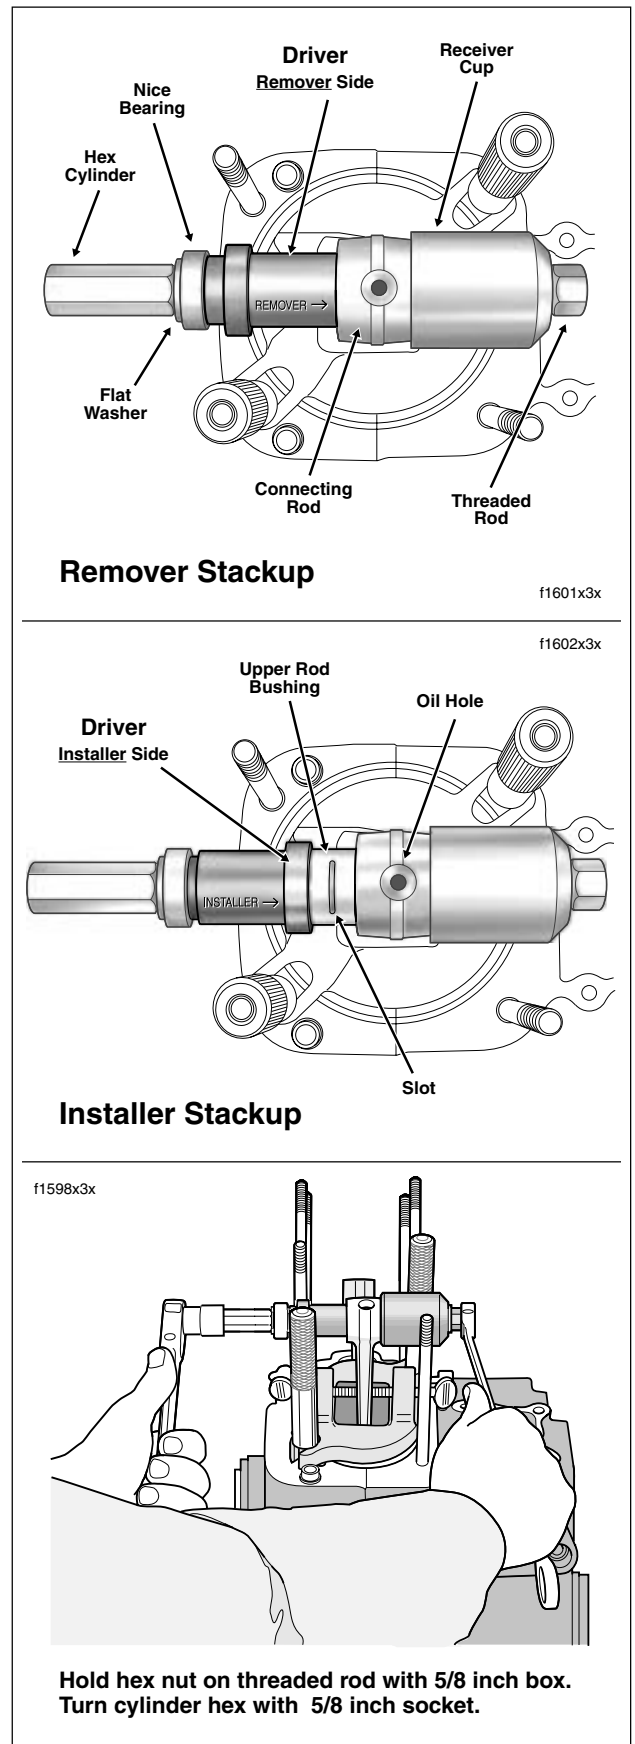

Figure 3-96. Remove/Install Connecting Rod Bushing
- Thread the hex cylinder onto rod until assembly is snug. See upper frame of Figure 3-96.
- c. Slide **new** bushing down threaded rod. Start bushing into bore. Verify that center of slot in bushing is aligned with oil hole at top of rod. Also, be sure that bushing is square in bore and not cocked. See center frame of Figure 3-96.
- g. Holding nut at end of threaded rod with a 5/8 inch box wrench, turn hex cylinder with a 5/8 inch socket until collar on driver bottoms against connecting rod. See lower frame of Figure 3-96.